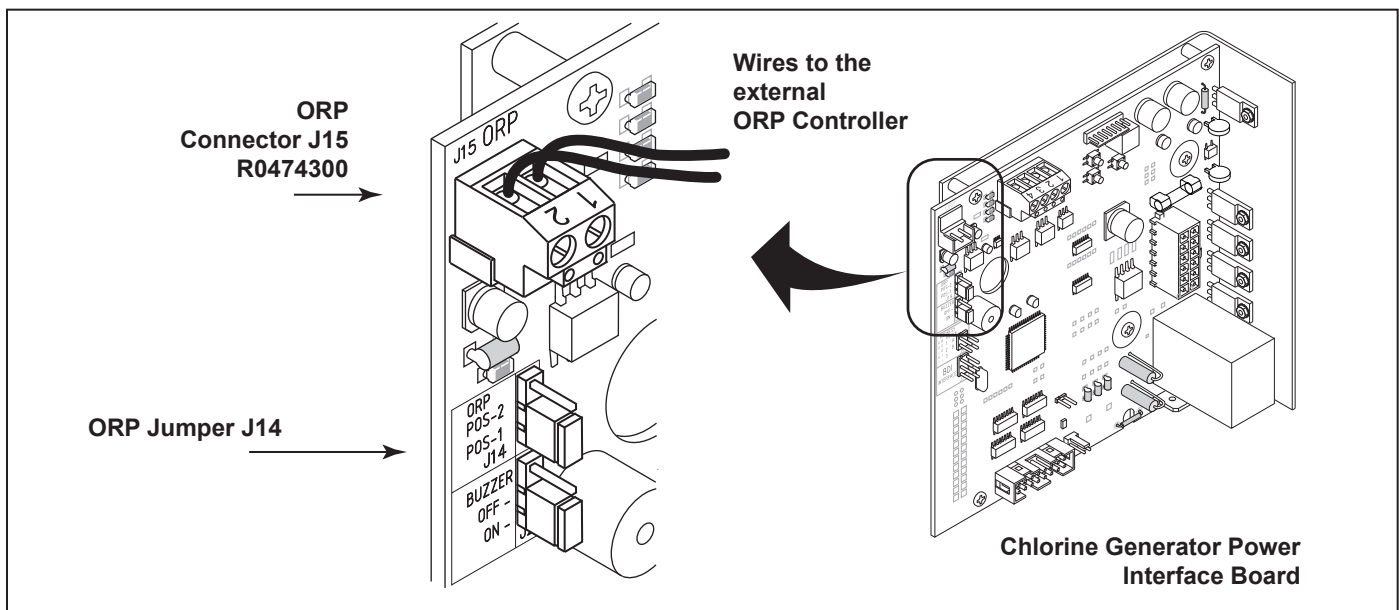

Figure 17. Movable ORP Jumper J14
An external device such as an ORP (Oxidation Reduction Potential) controller supplying 24 Volts AC can be used to control the output of the chlorine generator. The chlorine generator power interface board can be set up in the field to operate in two (2) different modes. The mode of operation is determined by the position of a movable jumper J14. See Figure 17 for location.
**POS-1** (Wait at least one (1) minute after applying power. See note 1.)